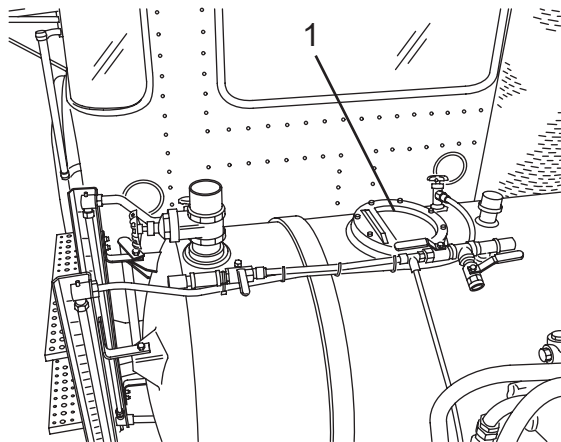

Figure 86
2. Place the water supply hose in the water tank flopper valve (Figure 86, Item 1).